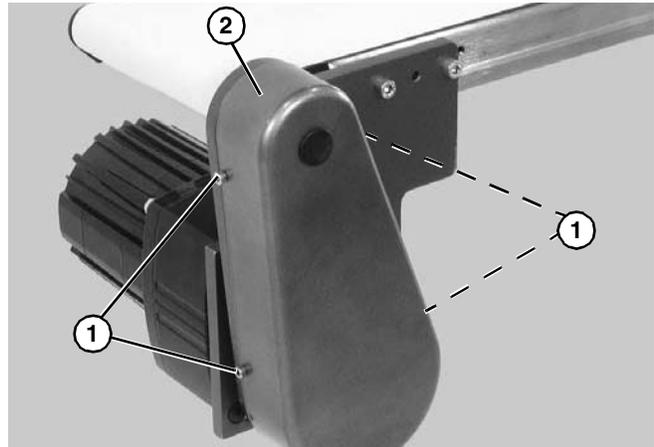

Figure 25
1. Remove four (4) screws (Figure 25, item 1) and remove cover (Figure 25, item 2).